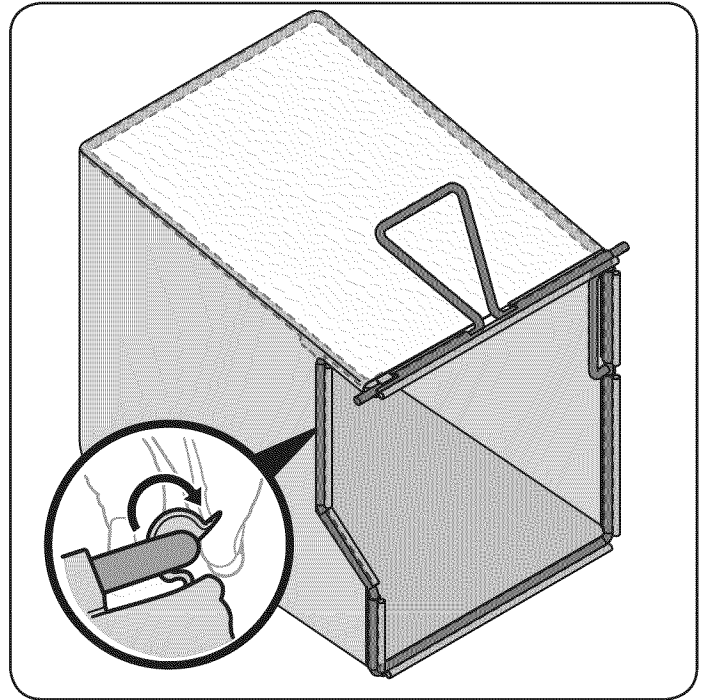

Figure 6
- b. Slip plastic channel of grass bag over hooks on the frame. See Figure 6.